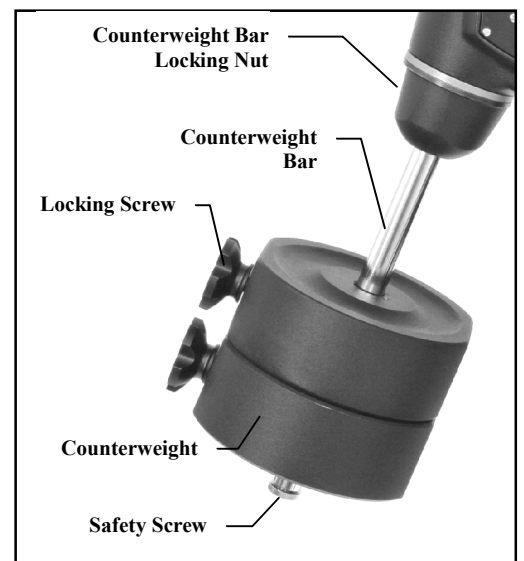

Figure 2-5 – Mount shown with two counterweights (CGEM 925 & 1100)
1. Locate the counterweight bar locking nut from the box containing the CGEM mount (see Fig 2-5).
4. Slide the counterweight onto the shaft (see Figure 2-5).